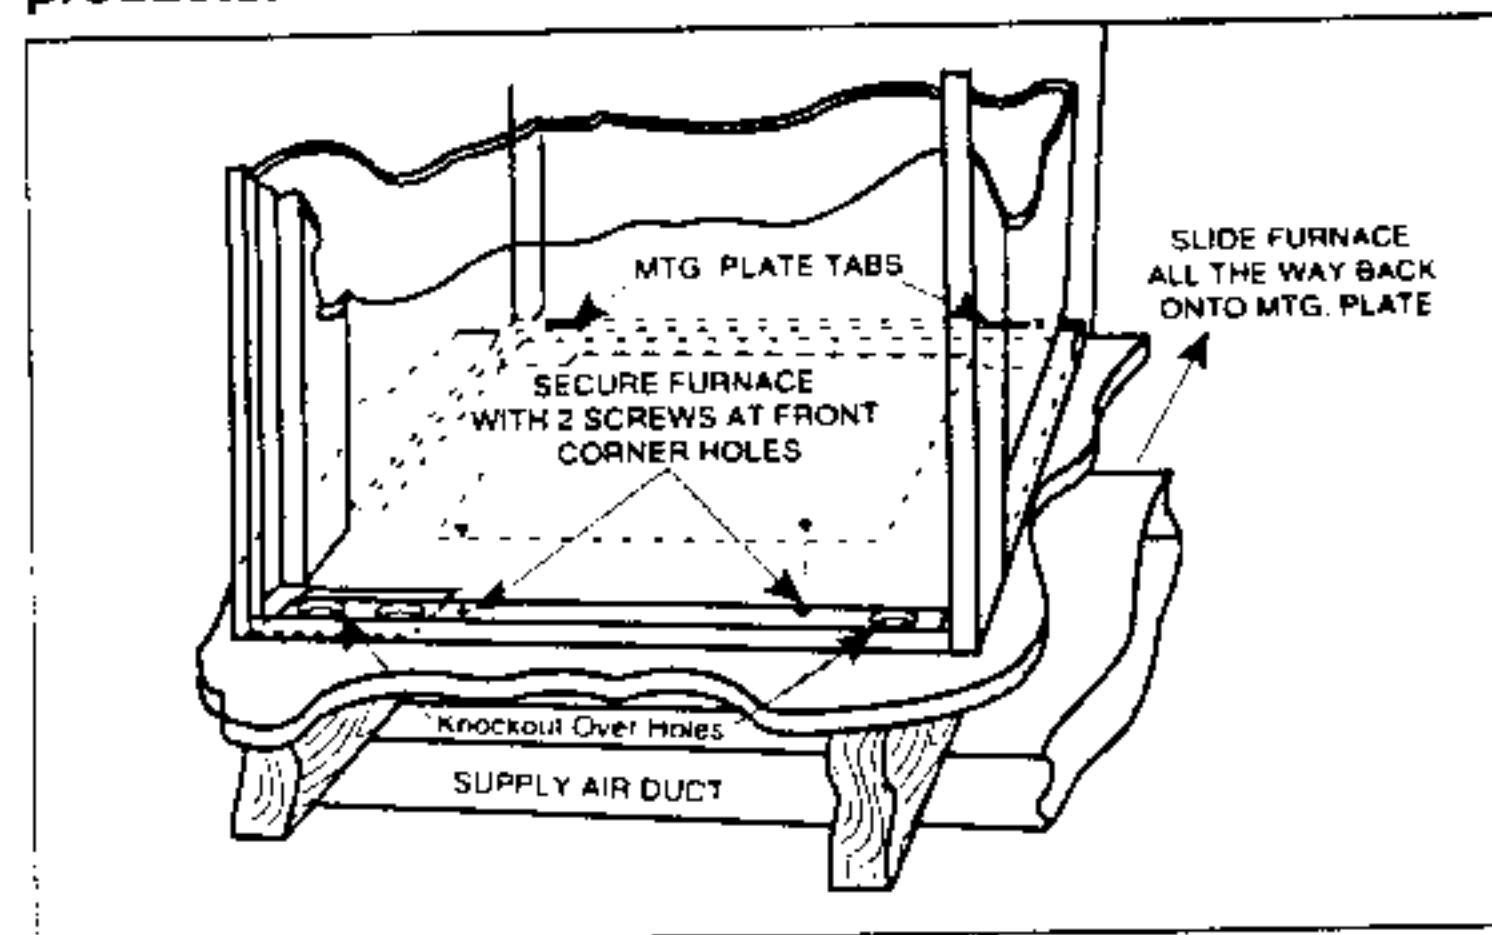

Figure 20. "A" & "B" Cabinet Furnaces
- d. Secure front with one (1) screw at each corner (See Figures 20 or 21).